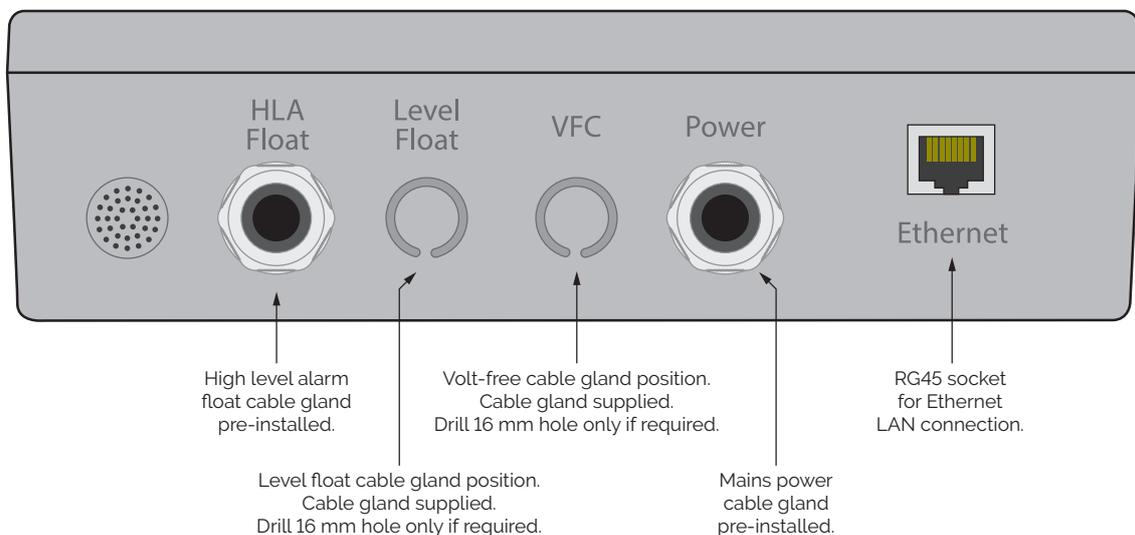

Figure 3. Delta HLA Plus Control Unit connections
Drill a 16 mm hole in the underside of the panel's backbox at the Level Float position (see Figure 3).
Drill a 16 mm hole in the underside of the enclosure backbox at the VFC position (see Figure 3).
1. Loosen the float switch cable gland located on the underside of the panel, as shown in Figure 3.